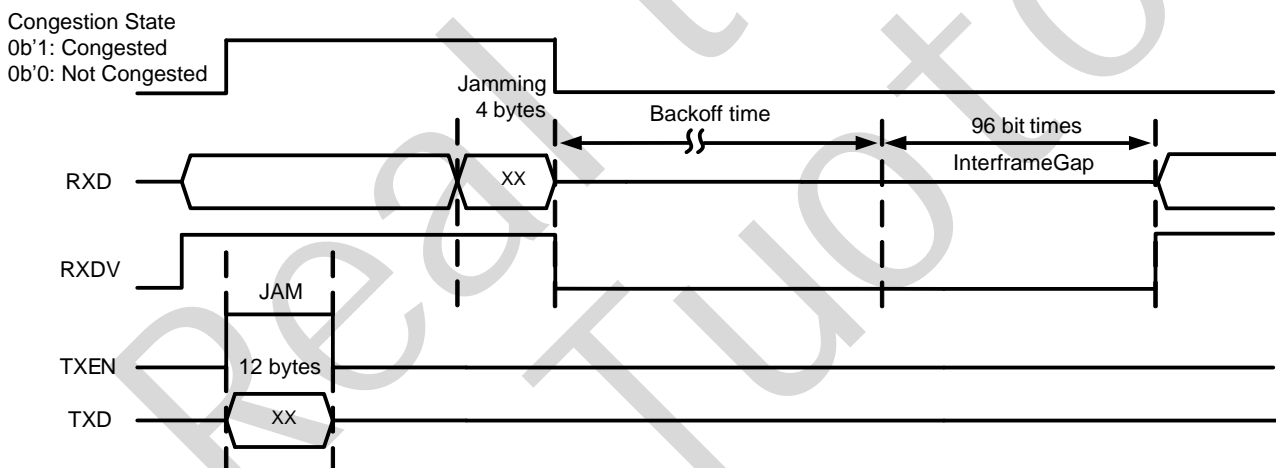

Figure 7. Signal Timing for Collision-Based Backpressure
- After the RTL8382L-VB receives this jamming signal, it drives RXDV low. The link partner waits for a random backoff time then re-sends the packet. The timing is shown in Figure 7